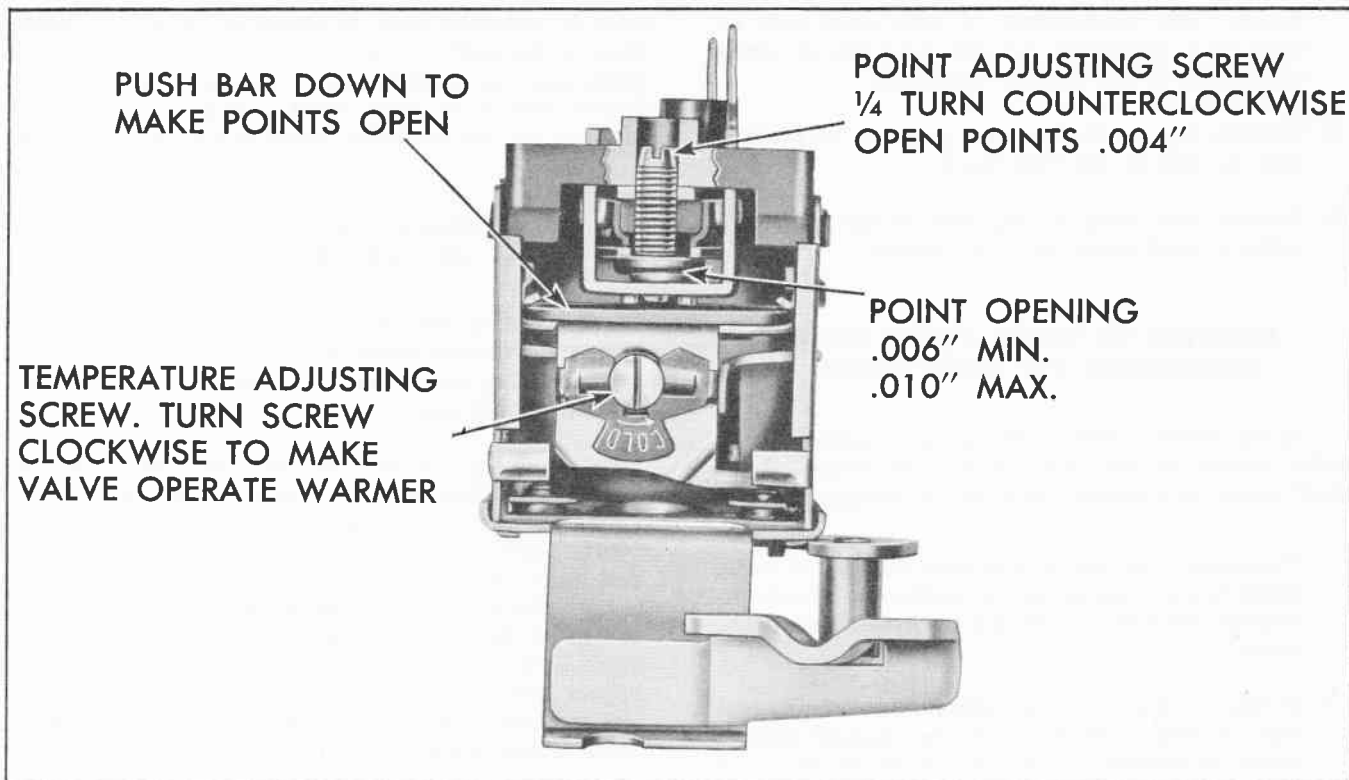

Fig. 4 Air Conditioning Rancostat
- c. Pressing down on the plastic bar, which is in the center of the opening, Fig. 4, observe the distance that the rancostat points open. This